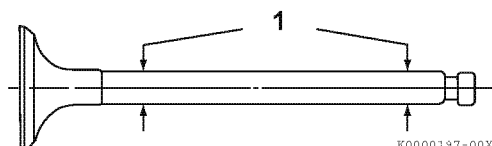

Figure 6-16
Use a micrometer to measure the valve stem diameter. Measure the valve stem near the combustion end and near the opposite end (**Figure 6-16, (1)**). Record the measurements. See *Intake / Exhaust Valve and Guide on page 6-4 for the service limit*.